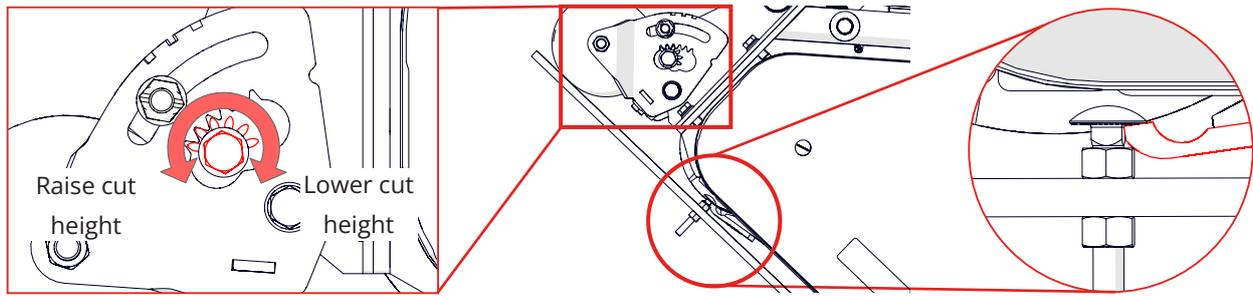

Fig. 8E - Rotate the toothed gear while offering up the setting bar. Stop when the head rests level/within the shear blade
7. Rotate the toothed gear to raise or lower the front roller. While doing this, position up the setting bar again between the front and rear roller. Stop adjusting when the head rests within the lip of the shear blade (Fig. 8E). Tighten lightly the top clamp nut.